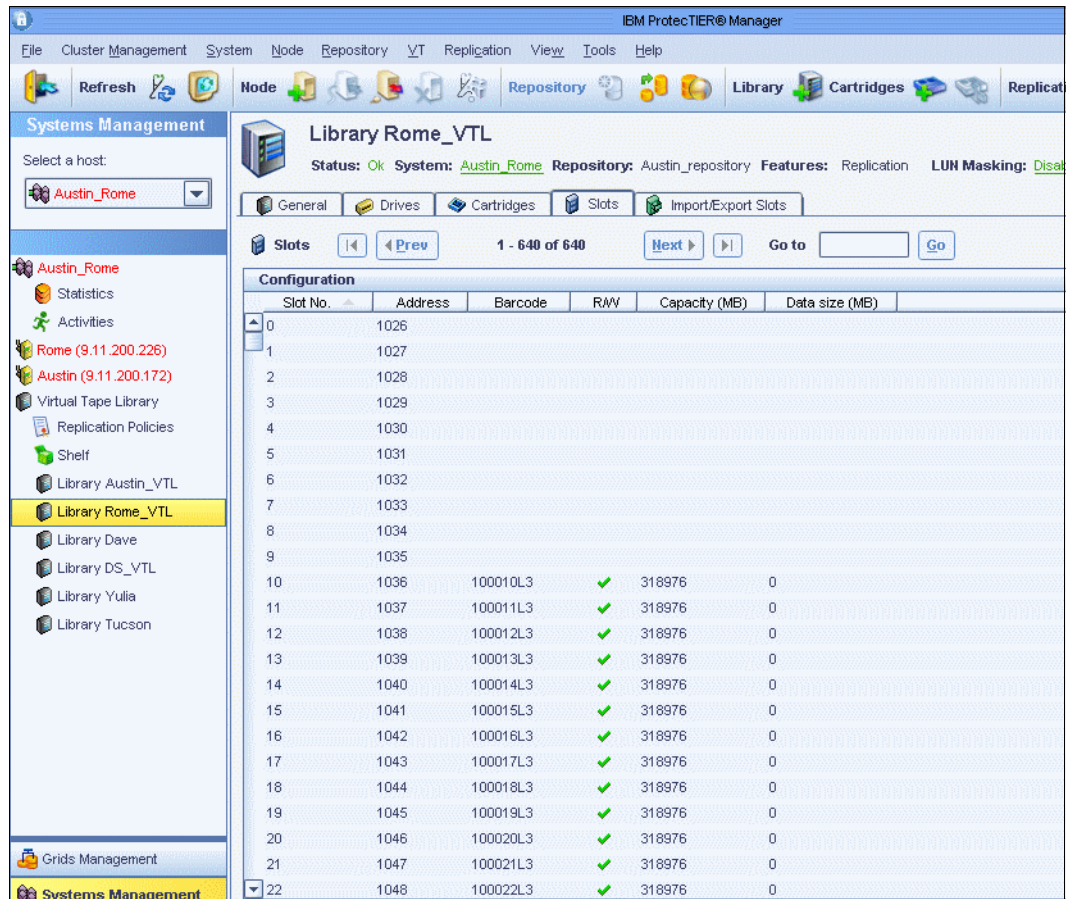

Figure 10-127 Library configuration window
2. Select the **Slots** tab. The library configuration window opens (Figure 10-127).